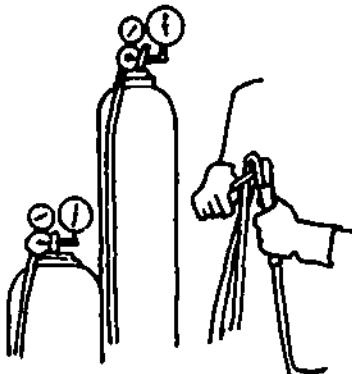

Figure 18-10. Inserting Tip
g) Connect the acetylene hose to the torch. Make connections clean and gas-tight (Figure 18-10).